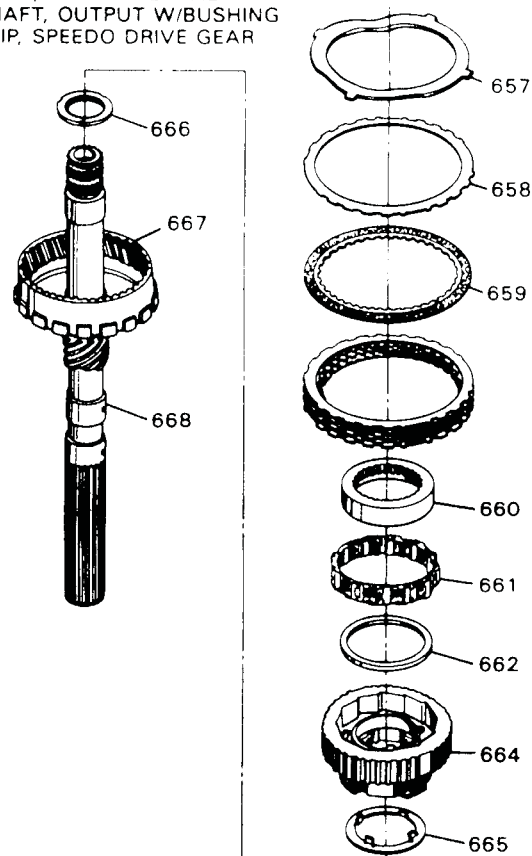

Figure 54
9. Remove the remaining components by grasping the output shaft and lifting upwards to remove them from the transmission case (See Figure 54).